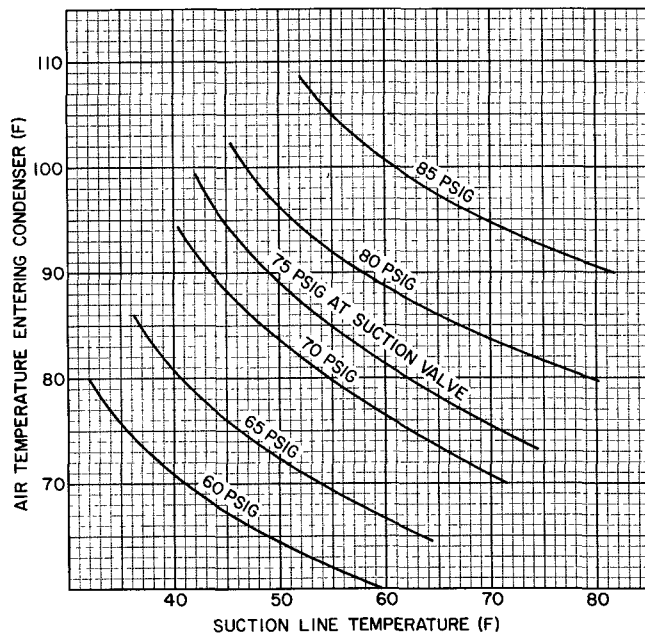

Fig. 7 — 38ED Charging Chart (AccuRater™ System)
CHARGING CHART METHOD — Use Charging Chart, Fig. 7, and the following procedure:
5. Refer to Charging Chart (Fig. 7). Find air temperature entering condenser and project horizontally to curve showing suction pressures (psig at suction valve).